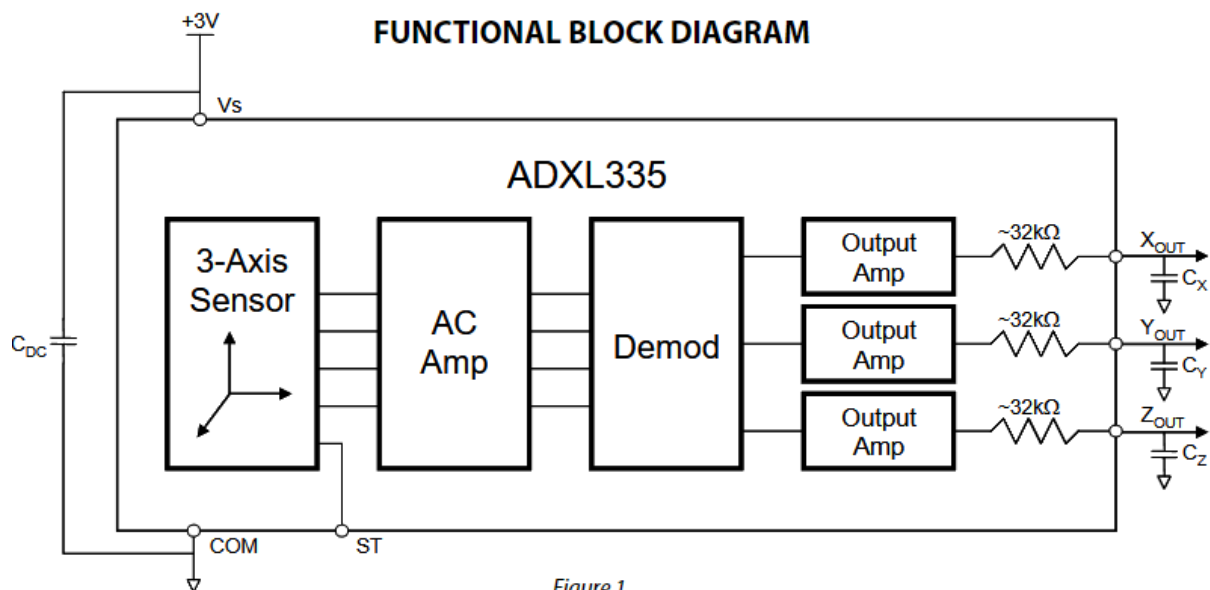

Figure 1.
- https://www.researchgate.net/figure/Espressif-SEP32-WiFi-Bluetooth-Microcontroller-Function-Block-Diagram_fig1_357103800